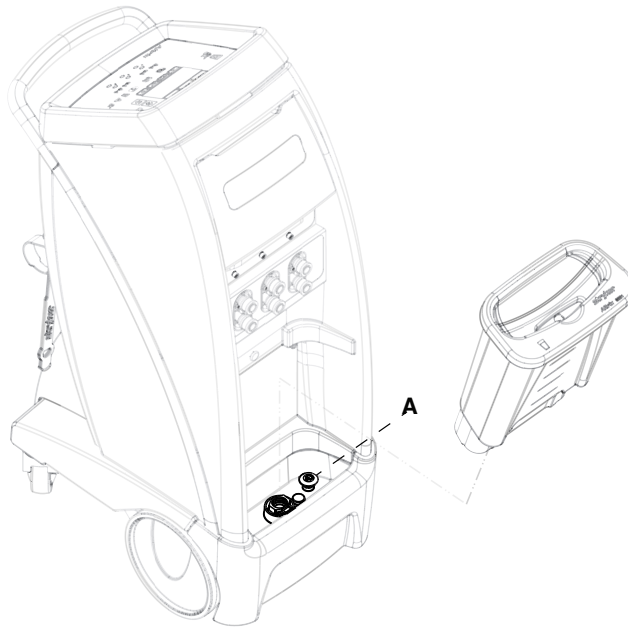

Figure 21 – Drain plug
2. Remove the reservoir and pull up on the controller drain plug (A) to open the drain (Figure 21).